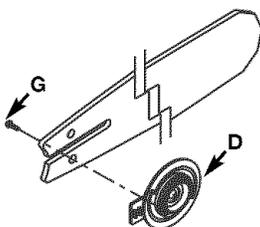

Fig. 19
5. Remove screw with lock washer (G) from the tension plate (D) to remove plate from the old bar. Then attach tension plate (D) to the new bar using screw with lock washer (G). Tighten securely with Phillips screw driver (Fig. 19).